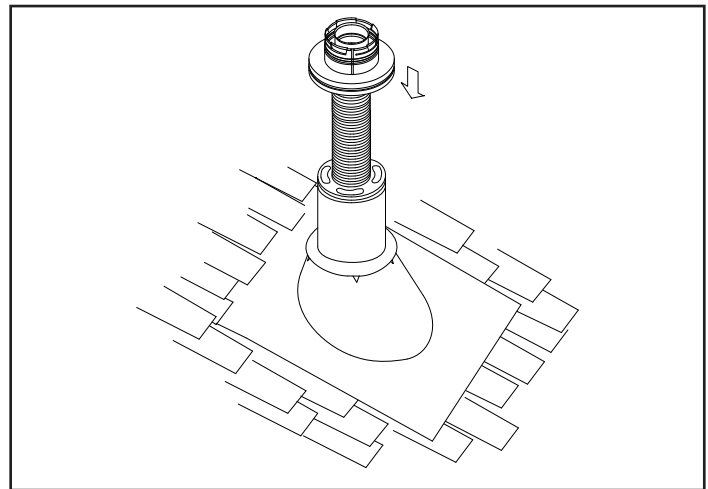
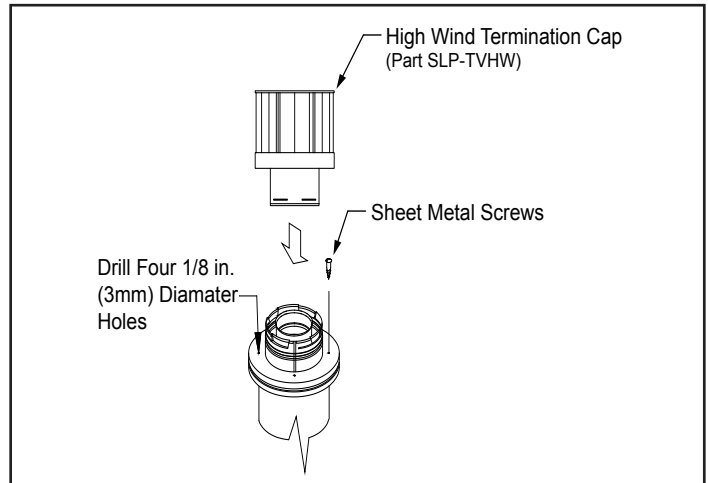

Figure 4.22
Figure 4.23
4. Pass the flex pipe down through the center of the chimney system, and center the top adaptor on the top of the chimney pipe. Drill four 1/8 in. (3mm) diameter holes through the top adaptor, and into the chimney top. Ensure that you are drilling into the metal on the chimney. Twist lock the high wind termination cap onto the top adaptor, Figure 4.22 and Figure 4.23.